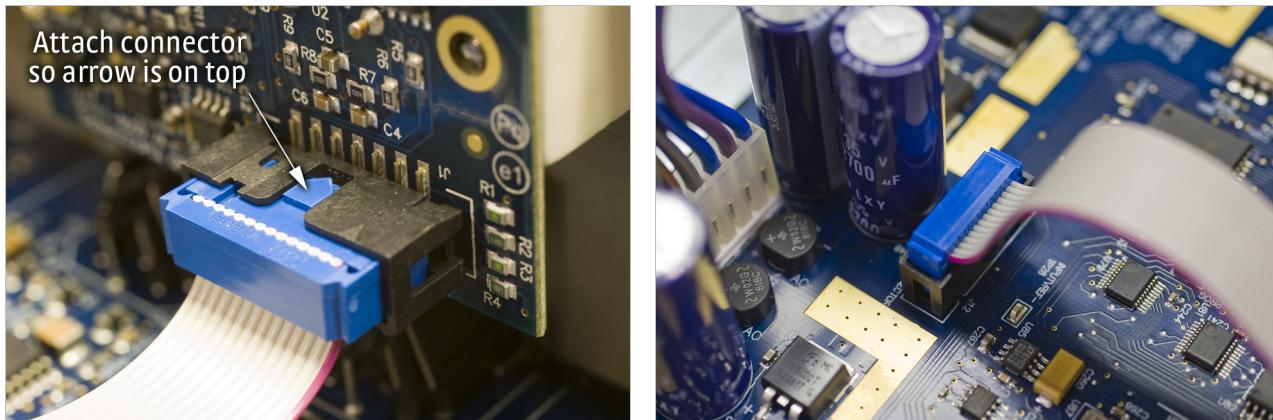

FIGURE 7-4 *Proper orientation of the ribbon cable connector plug*
8. Place the option card into its position in the rear panel from inside the instrument. Orient the card so that the 14-pin ribbon cable connector is toward the bottom of the instrument, closest to the main circuit board(FIGURE 7-4).
12. *This step is not applicable to the 3062 option card.* Insert the 14-pin ribbon cable connector plug into the socket on the option board. Orient the ribbon cable connector plug so that the arrow nub slides into the plug slot, and the ribbon cable exits downward (FIGURE 7-4).